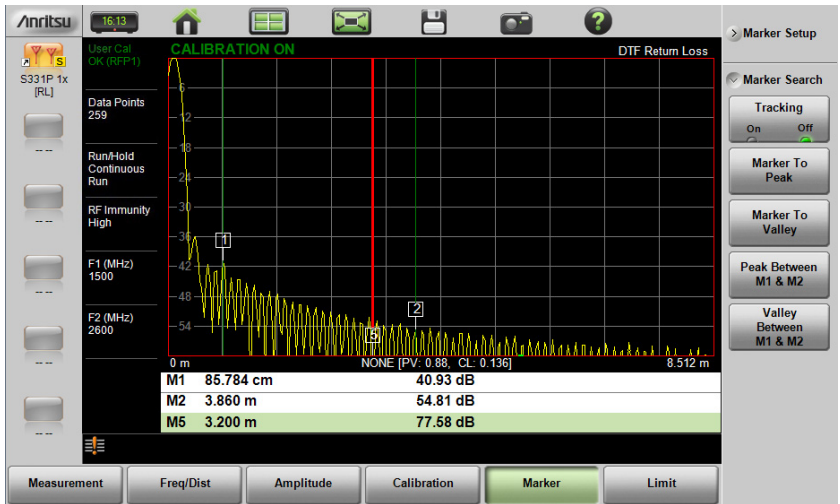

Figure 3-33. Bounded Marker Search
3. Press Marker Search and select Valley Between M1 & M2. Marker 5 will move to the valley between M1 and M2. See Figure 3-33. The valley search would also work if M1 and M2 were set and then turned off.